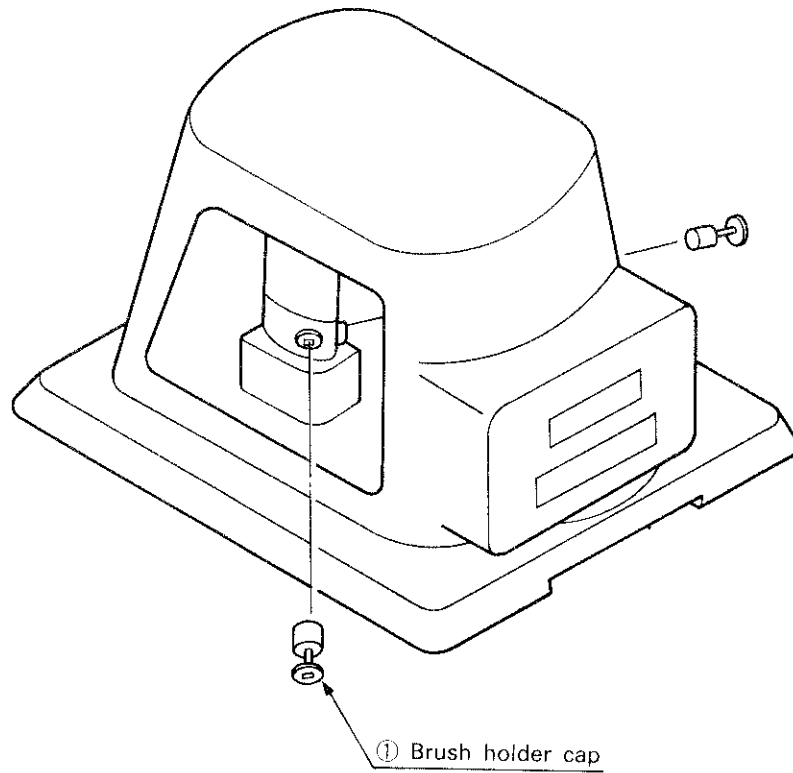
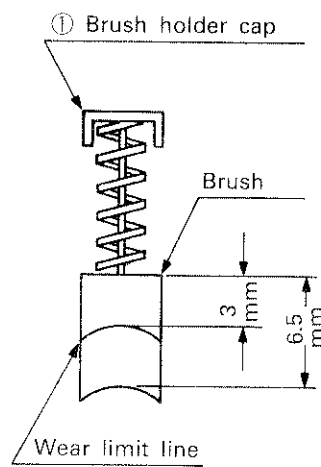

Fig. 4.3.3 Checking and Replacing the Waist Drive Motor Brushes
Fig. 4.3.4 Brush Shape
- (1) Fig. 4.3.3 outlines the inspection and replacement procedures of the waist drive motor brushes.
- (2) Remove the left and right base side covers by referring to 3.2 Removal of the Covers.
- (3) Using a flat-blade screwdriver, turn the head of the brush holder cap ① counterclockwise to remove the brush holder cap ①. There are two brush holder caps at right and left.
- (4) Fig. 4.3.4 shows the shape of the brush and the brush wear limit length. Check the brush for wear and replace it before the wear limit is reached.
- (5) If the brush is damaged, replace it with a new one regardless of the length of the brush.
- (6) Check the brush one location at a time. When it is reinstalled, make sure of the correct installed position and direction.